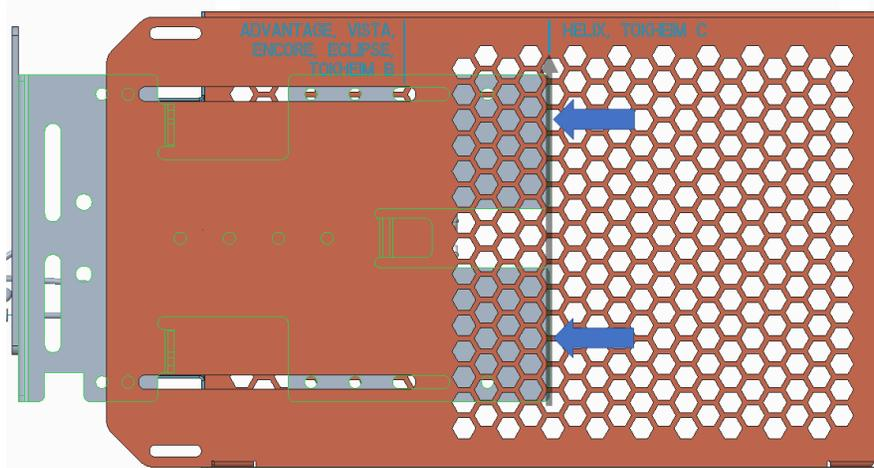

Figure 109
- 5) Slide the wire guard (497-0522796) around the NCR heater assembly so that the edge of the bracket aligns with the Helix, Tokheim C alignment mark as shown in Figure 109